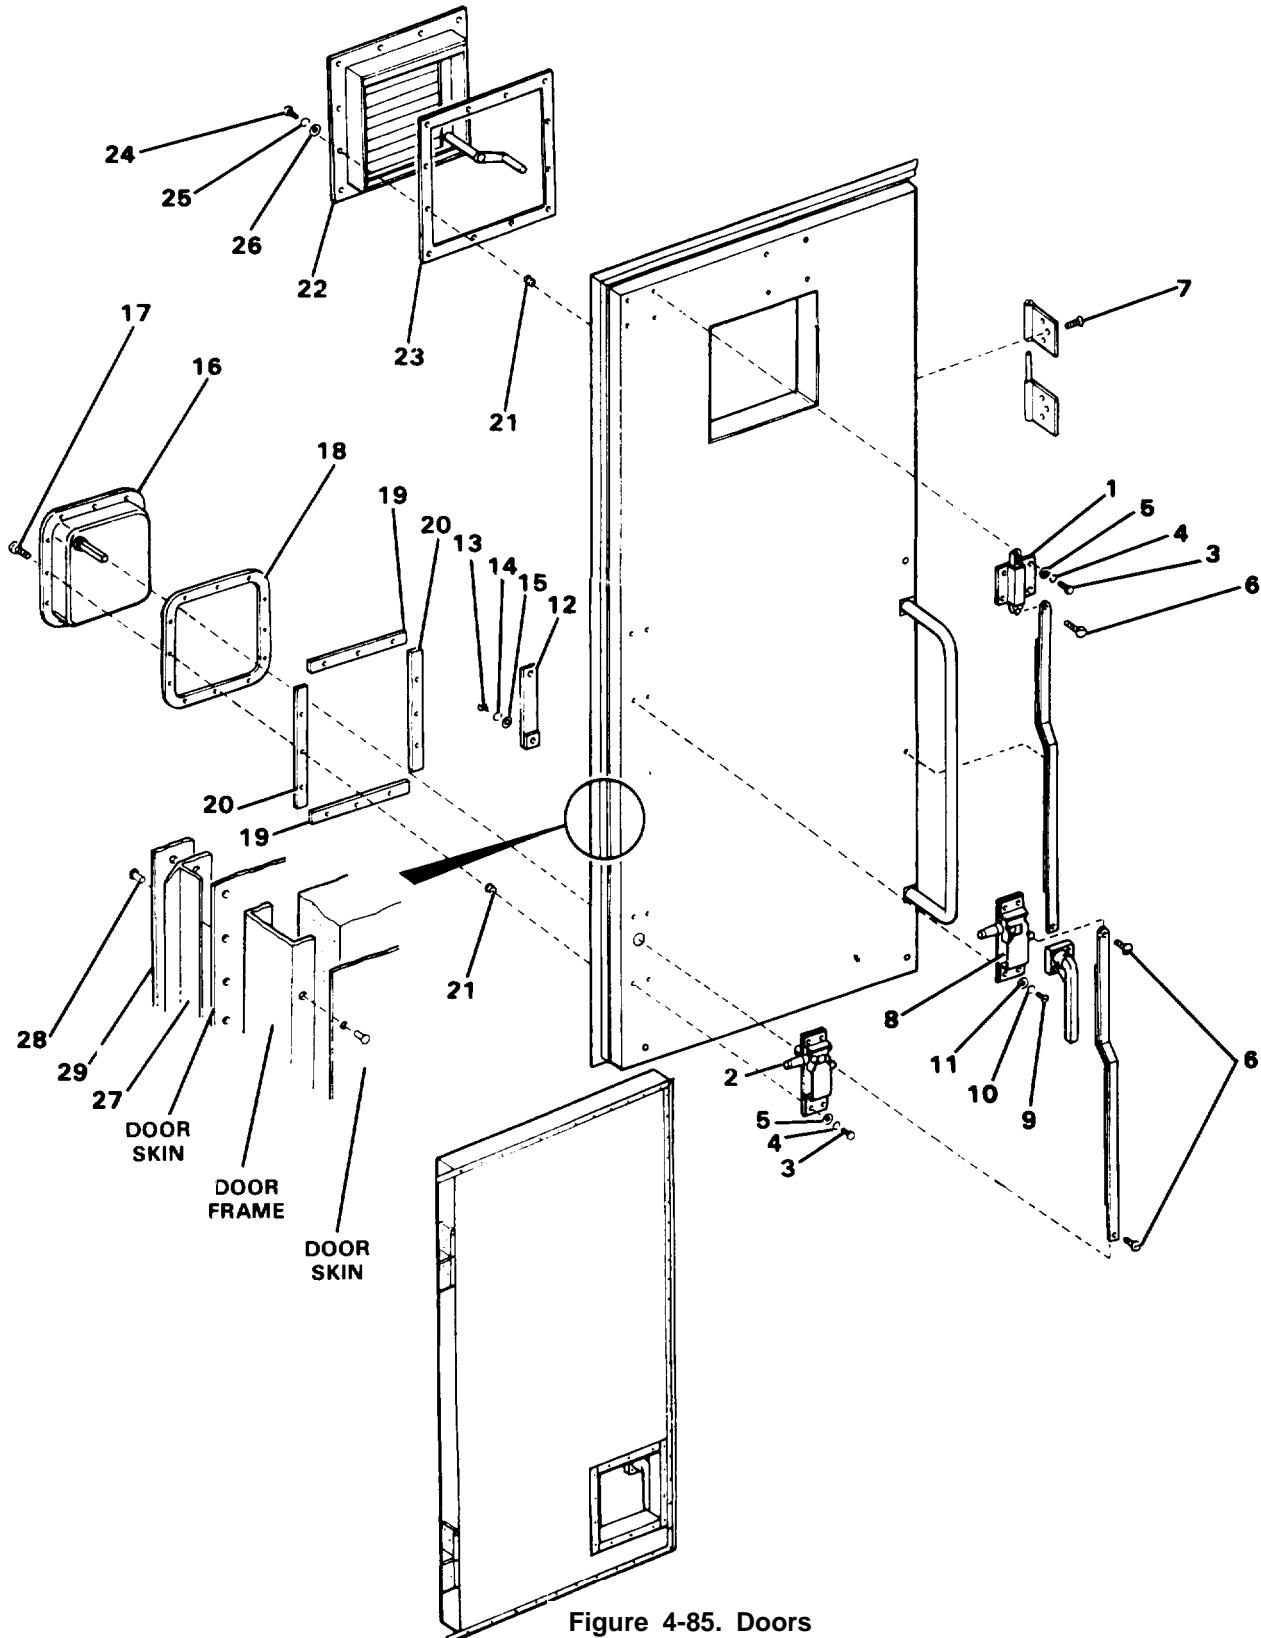

Figure 4-85. Doors
- a. Refer to Figure 4-85 and adjust main doors and door lock mechanisms to obtain easy opening, closing, and latching, as required.
- b. Check that upper latch(1) and lower latch (2) mechanisms have not loosened and shifted in position. Adjust and secure capscrews (3), lockwashers (4) and washers (5) as needed.
- c. Check that tie rod fasteners(6) have not loosened or worn, allowing excess motion. Tighten fasteners as needed.
- d. Check hinge fasteners (7) for tightness.
- e. Check door main latch (8) for any play or looseness. It is retained with capscrews (9), lockwashers (10) and washers (11), tighten as needed.
- f. Check door striker(12) for tightness. It is secured with capscrews (13), lockwashers(14) and washers (15).
- g. Check that recessed latch mechanism (16) has not loosened. It is fastened with capscrews (17).
- a. Check that upper latch(1) and lower latch (2) mechanisms have not loosened and shifted in position. Adjust and secure capscrews (3), lockwashers (4) and washers (5) as needed.
- b. Check that tie rod fasteners (6) have not loosened or worn, allowing excess motion. Tighten fasteners as needed.
- c. Check hinge fasteners (7) for tightness.